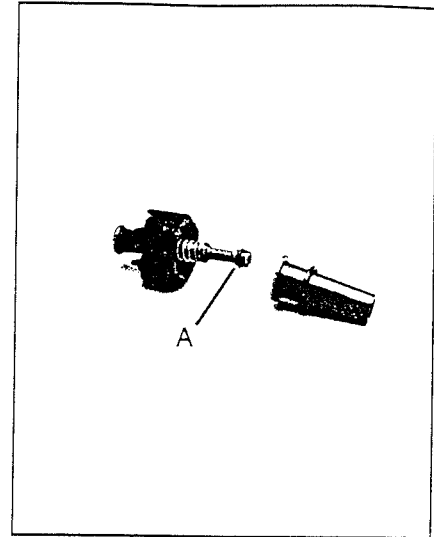

Figure 30
- 4) The pressure relief valve is removed by unscrewing it from the tank. Once removed, the lower housing pulls off to access the o-ring on the stem (A). When replacing this o-ring, make sure that it is seated in the recess on the stem. Lubricate before reassembly. (See Figure 30).